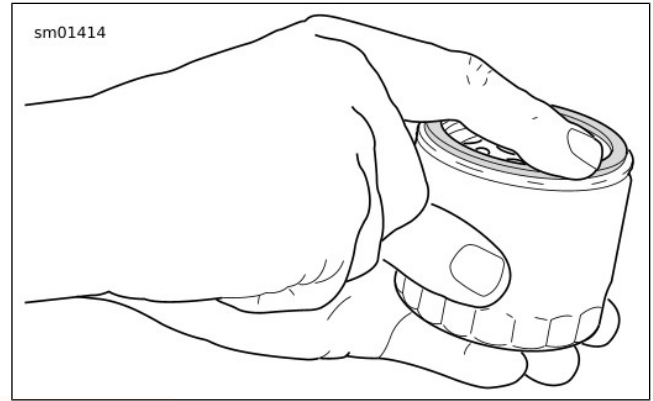

Figure 93. Lubricating New Oil Filter Gasket
7. See Figure 93. Install **new** oil filter.